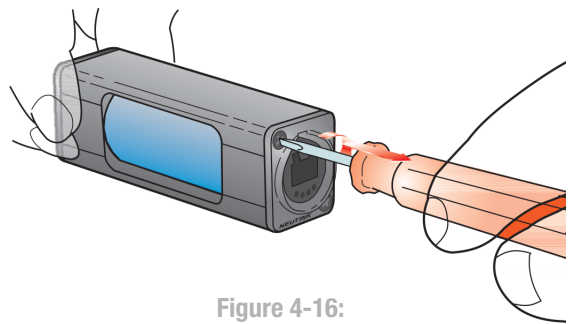

Figure 4-16:
- Step 2. Remove all caps and screws. **(Figure 4-16)**